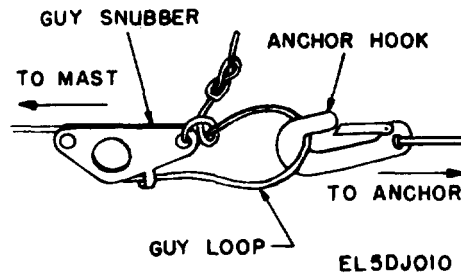

Figure 2-5. Guy attachment to ground anchor.
g. Extend the guy ropes to the anchor assemblies and attach the free end guy loop of the guy snubber to the anchor hooks (fig. 2-5). When attached this way, each guy rope can be pulled as taut as desired by lengthening the guy loop.